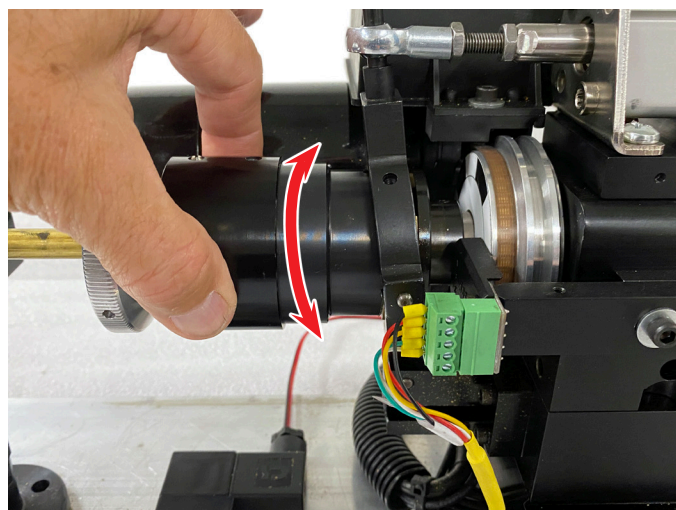

FIGURE 41
11. At this time, turn the LCC body by hand. It should turn freely if the shoes are in the correct position (see Figure 41).